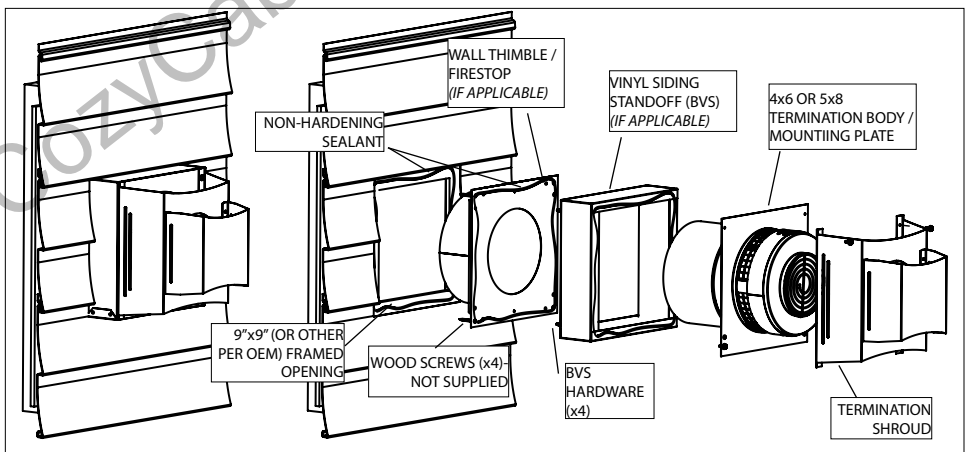

Figure 1 - H2 Termination Assembly
1. Determine the components required per local building codes and OEM installation instructions. These may include a wall thimble, a wall firestop and / or vinyl siding standoff (BVS), (**Fig. 1**). (Note: When installing DirectVent Pro on appliances in Canada, a 2-piece wall thimble is required in order to comply with IR #41). Reference **Table 1** for H2 compatibility.
3. Mark the wall for the framed hole per Step 2. Unless otherwise specified by the appliance OEM, the center line of the pipe should line up with the center of the opening. Cut and frame the penetration in the exterior wall where the vent will be terminated (**Fig. 1**).
4. If required, the wall thimble and wall firestop are installed similarly, reference **Fig. 1**. Use wood screws, apply weather sealant prior to installation, ensure a tight seal. The four wood screws noted should be replaced with appropriate fasteners for use on brick, concrete, block, or other types of construction.